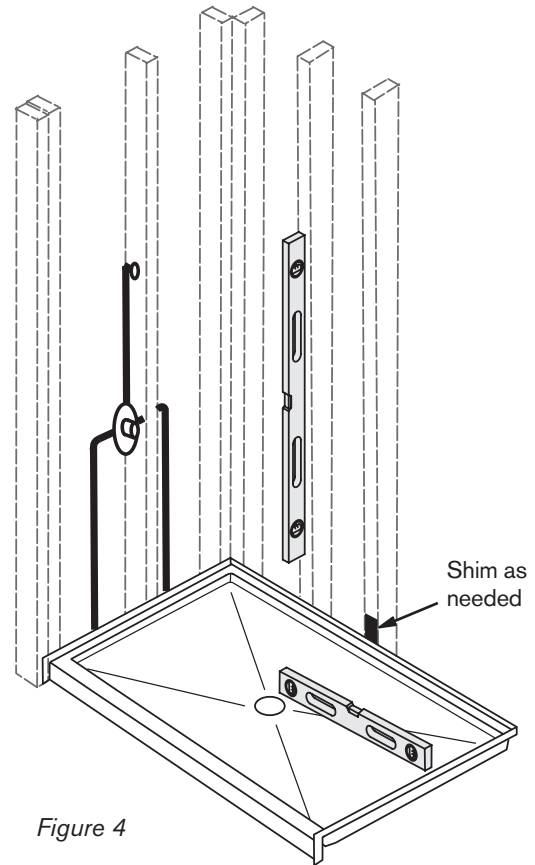

Figure 4
- 2 **DRY-FIT THE PAN:** Set pan in the pocket. You **MUST** either dry-fit the shower walls or use a level to ensure pan is level. Shim if necessary. (Figure 4)